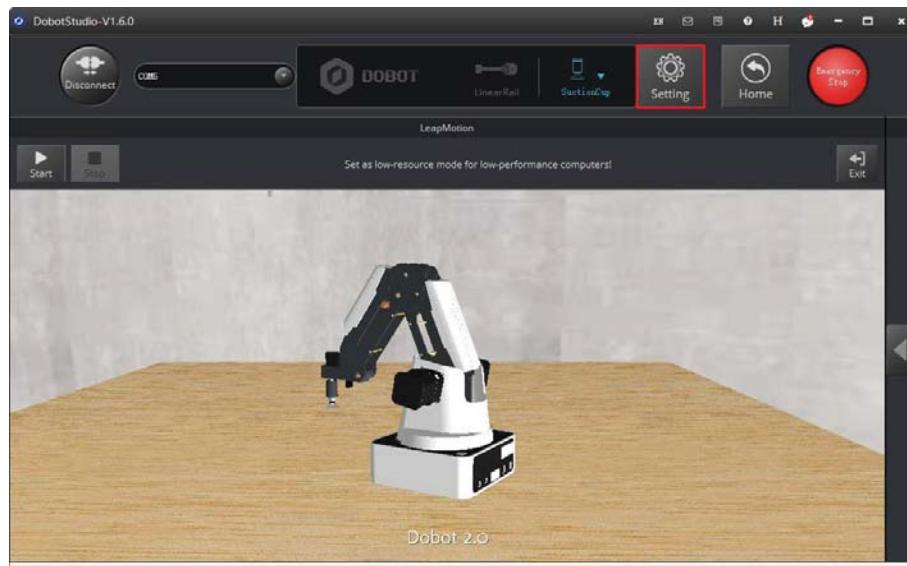

Figure 5.108 Click Setting
**Step 3** Click **Setting** on the **DobtStudio** page, as shown in Figure 5.108.